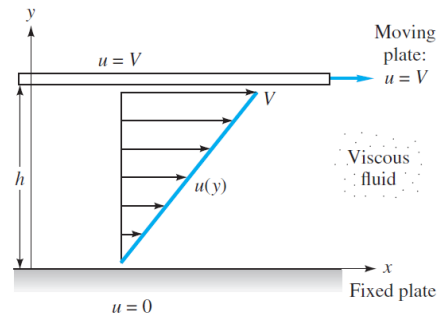

Fig. 1.3
- 1.3** In Fig. 1.3, if the fluid is glycerin at 20°C and the width between plates is 6 mm, what shear stress (in Pa) is required to move the upper plate at 5.5 m/s? What is the Reynolds number if L is taken to be the distance between plates?